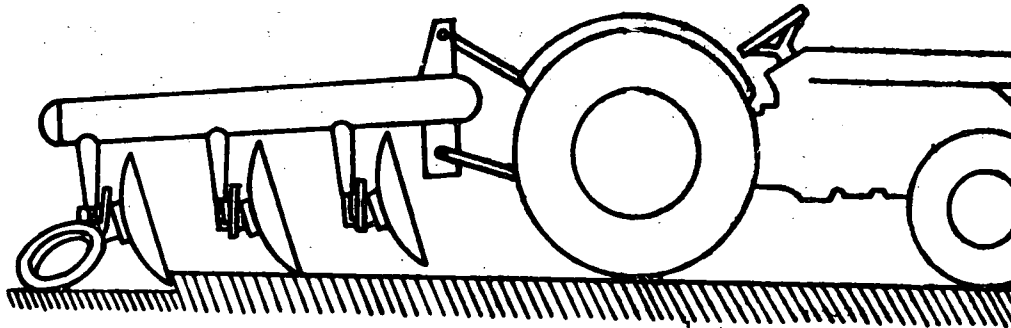

Fig. 1
- a) Extend the top link sufficiently to allow the last disc to plough (Fig. 1).